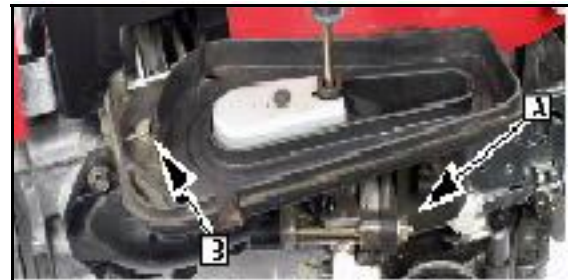

Fig. 22
5. Remove the two nuts ([A] Fig. 22) that secure the air filter housing to the carburetor mounting studs.
6. Remove the supporting bolt ([B] Fig. 22) in the air filter housing.
6. Install air cleaner housing supporting bolt (See [B] Fig. 22). Torque to values listed.